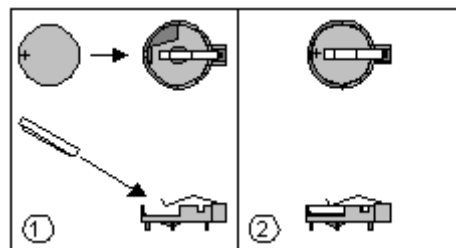

Figure 28: Removing the Battery
5. Figure 29, 1 shows the battery location. Gently pry the battery free from its socket, taking care to note the "+" and "-" orientation of the battery (Figure 28, 2).